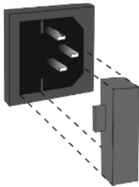
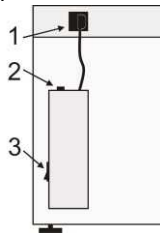
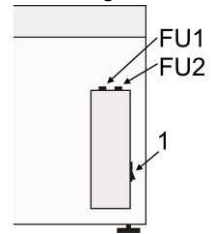

Figure 4.
Figure 5
Figure 6
**Note.** For **UVC/T-M-AR** and **UVT-B-AR** boxes, check that the short power cable (fig. 5/1) is connecting the fuse box and the controller top.
**UVC/T-M-AR, UVT-B-AR** – on the right side of the unit, behind the rear wall (fig. 5/3);
**UVT-S-AR** – on the left side of the unit, behind the rear wall (fig. 6/1).
7.3.1. Fuse for the control box. Disconnect the unit from electric circuit. Remove power cable from its socket on the rear side of the unit. Open the fuse holder by pulling out the holder (fig. 4, compact models) or by screwing off the holder lid marked FU2 (fig. 6, model **UVT-S-AR**). Check the fuse and replace if necessary, **M** 3.15 A (type **M** - time lag: **Medium**).
7.3.2. Fuse for the mains outlets (for models with built-in mains outlets). Disconnect the unit from electric circuit. Open the fuse holder by screwing off the holder lid (fig. 5/2 or fig 6, FU1). Check the fuse and replace if necessary, **M** 5.0 A (type **M** - time lag: **Medium**).